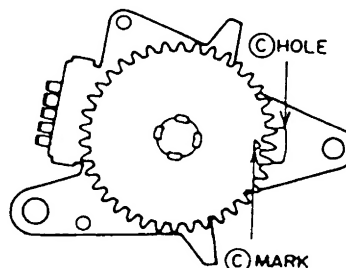

Fig. 3-14
- 1) Set the MODE SELECT SWITCH's gear so that the Ⓒ mark is in the center of the Ⓒ hole as shown in Fig. 3-14.